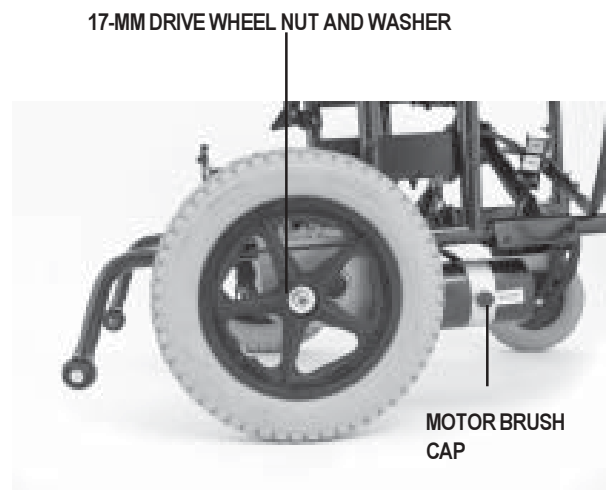

Figure 30. Drive Wheel and Motor Brush Location
4. Use a 17-mm socket to remove the nut and washer from wheel axle. See figure 30.
1. Unscrew the motor brush caps. See figure 30.